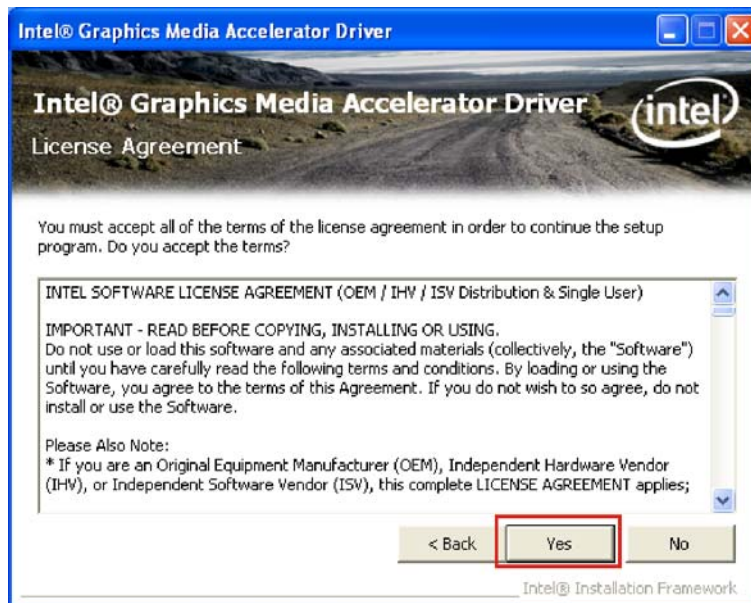

Figure 7-11: GMA Driver License Agreement
Step 8: The license agreement appears (**Figure 7-11**).